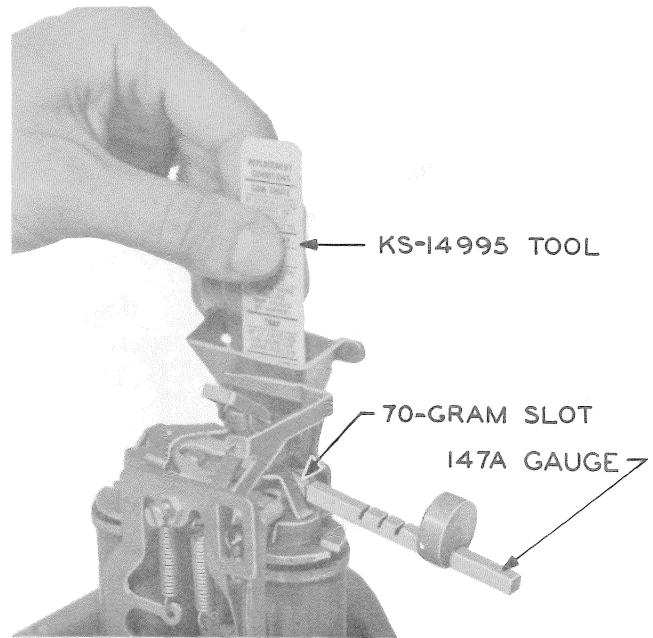

Fig. 59—Trap and Vane Release Test (Two-Coil Relay)
- 6.113** Trap, vane, and relay should restore fully to their unoperated positions against a torque of 70 gram-inches applied to relay operating arm with a 147A gauge (Fig. 59). Test as follows:
- (1) Remove shield from relay.
- (2) Apply slot 70 of 147A gauge to right rear horizontal portion of relay operating arm. Make sure that enclosed end of slot is against edge of operating arm and that weight on gauge is positioned up, as shown in Fig. 59.
- (3) Press down on 147A gauge to operate relay and vane to limits of their travel.
- (4) Insert KS-14995, List 3 trap and vane test tool into throat of hopper to operate trap to the limit of its travel. Hold in place as shown in Fig. 59.
- (5) Release pressure on 147A gauge.
- (6) Slowly withdraw KS-14995 tool. Take at least 5 seconds.
- (7) Be sure that vane and relay return to their unoperated positions.
- (8) Make test three times with gauge on right (collect) side and three times on left (refund) side.